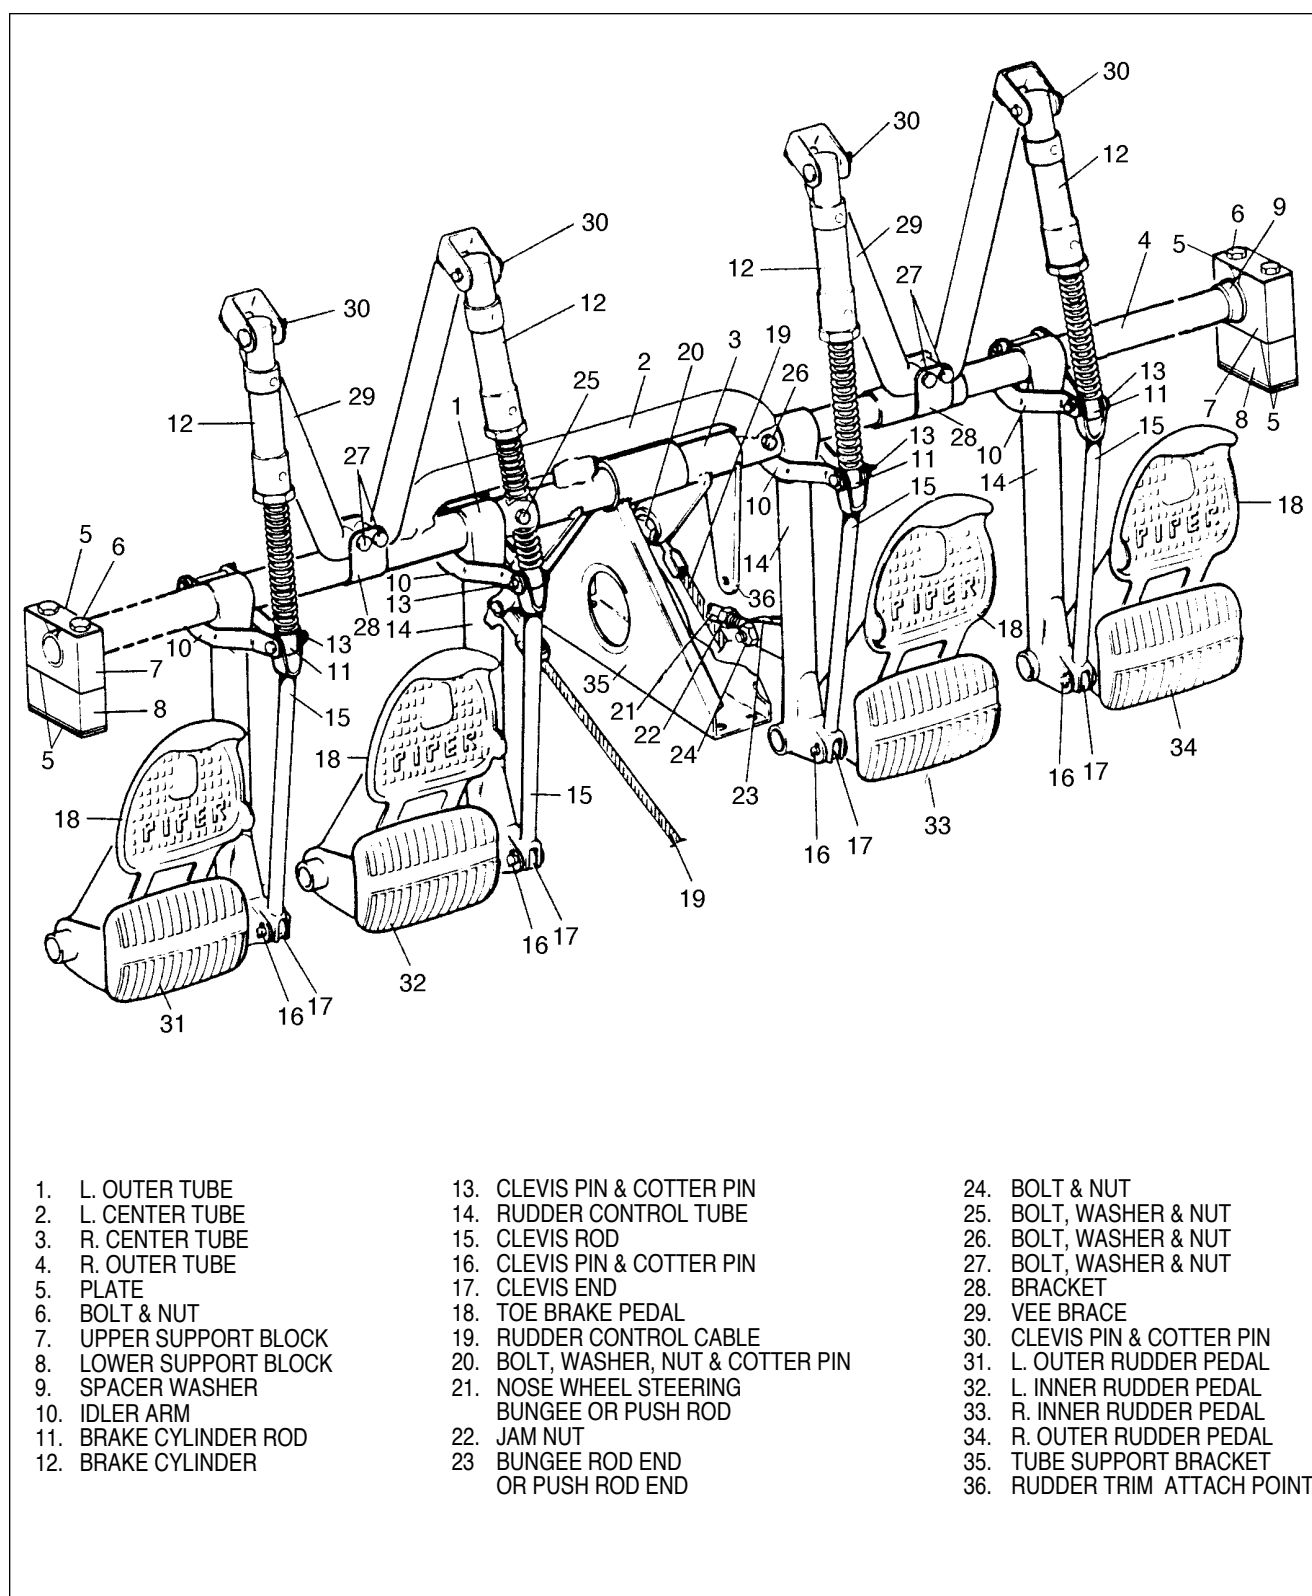

Figure 5-15. Rudder and Steering Pedal Assembly
5-27. REMOVAL OF RUDDER AND STEERING PEDAL ASSEMBLY. (Refer to Figure 5-15.)
5-28. INSTALLATION OF RUDDER AND STEERING PEDAL ASSEMBLY. (Refer to Figure 5-15.)
- a. Assemble the torque tube assembly (1, 2, 3 and 4) as shown in Figure 5-15. Do not at this time install the two bolts (25 and 26) through the center of the tube assembly.
- b. Place the upper support blocks (7) on the ends of the torque tube assembly. Note that a washer (9) is required on each end of the tube.
- c. Position the support blocks (7 and 8) on their mounting brackets at each side of the fuselage and secure with bolts, washers and nuts. Note that a bushing is required in the bolt holes of the upper support block, a plate (5) on top of the upper block, between the upper and lower blocks, and under the block mounting bracket.
- e. Position the torque tube support bracket (35) on the floor tunnel and secure with bolts.
- f. Position the vee braces (29) on the torque tube; install the strap bracket (28) around the torque tube and brace and secure with bolts, washers and nuts (27).
- g. Connect the ends of the brake cylinder rods (11) and clevis rods (15) to the idler arms (10) and secure with clevis and cotter pins (13).
- h. Connect the nose wheel steering bungees or push rods (21) to the rudder pedals (32 and 33) and secure with bolts and nuts (24). Check nose wheel steering bungee or push rod adjustment per Alignment of Nose Gear, Section VII.